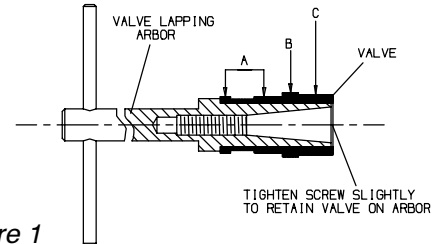

Figure 1
2. Clean and check the Piston (21). Replace it if it is badly worn. Apply a few drops of Ingersoll-Rand No. 10 Oil on the Piston before inserting it into the Barrel, tapered end first.
3. Place the Valve (14) in the Valve Box (12), large end first. If an oversize Valve is required, it must be lapped into the Valve Box.
- a. Install the Valve (14) on the No. 29870 Valve Lapping Arbor as shown in Figure 1.